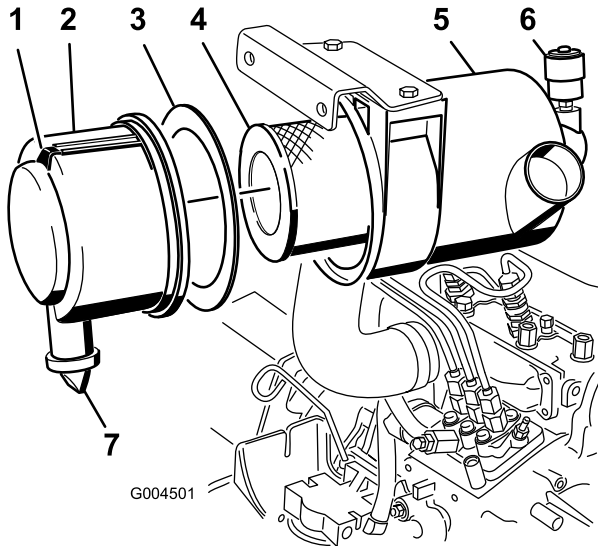

Figure 42
- Service the air cleaner filter when the air cleaner indicator (Figure 42) shows red or every 400 hours (more frequently in extremely dusty or dirty conditions). Do not over service the air filter.
1. Pull the latch outward and rotate the air cleaner cover counter-clockwise (Figure 42).
2. Remove the cover from the air cleaner body (Figure 42).
4. Remove and replace the primary filter (Figure 42).
6. Ensure that the foam gasket is in place in the cover and that it is not torn or damaged (Figure 42). If it is damaged, replace it.
- A. Remove the rubber outlet valve from the cover (Figure 42).
10. Reset the indicator (Figure 42) if showing red.